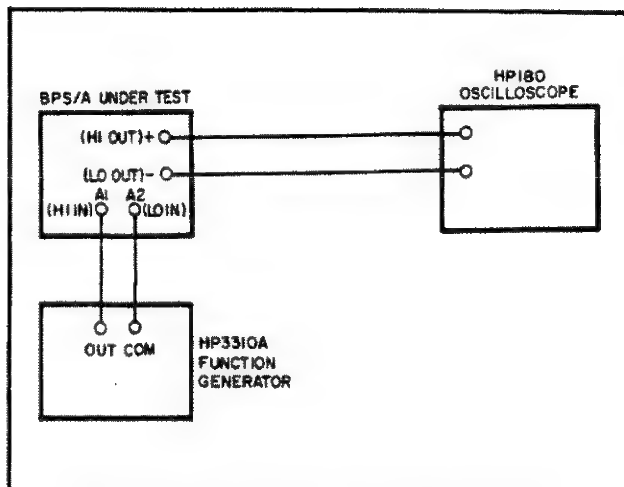

Figure 5-6. Programming Speed, Test Setup
- Connect test setup as shown in Figure 5-6.